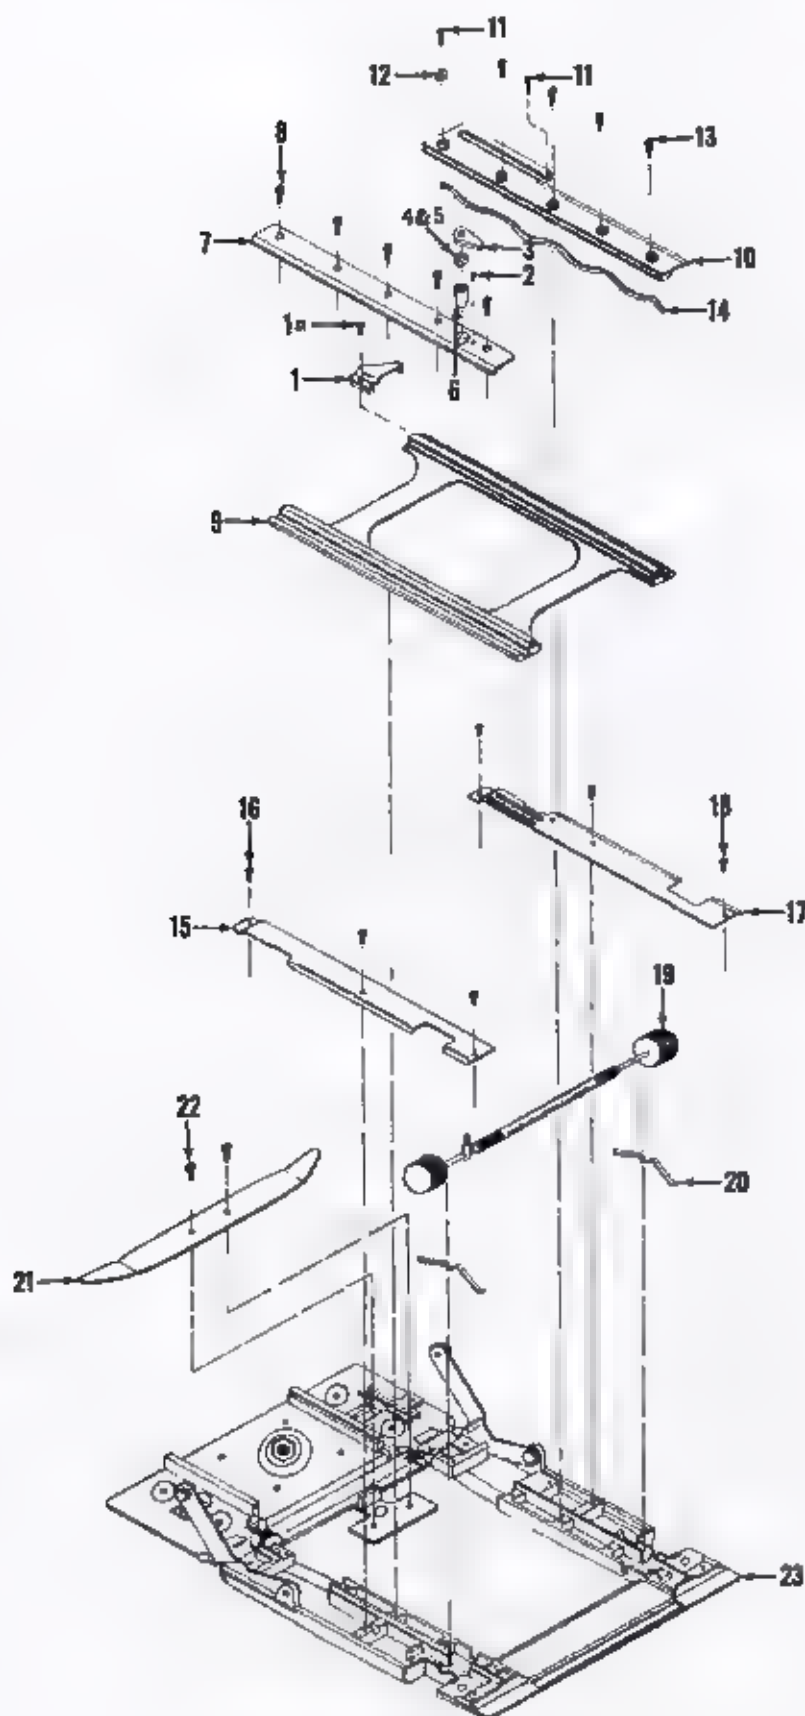

Figure 11. BED COMPLETE
W. BED COMPLETE - DISASSEMBLY AND REASSEMBLY (Figure 11)
a. Remove rangefinder actuating bracket assembly (1) by removing one machine screw (1a). The machine screw is part of the rangefinder actuating bracket assembly.
b. Remove machine screw (2), yoke lock lever (3), flat washers (4 or 5) and yoke lock sleeve (8).
c. Remove right yoke guide (7) by removing five machine screws (8).
d. Remove bed yoke (9).
e. Remove left yoke guide (10) by removing two machine screws (11), one machine screw (12) and four machine screws (13).
f. Remove two yoke springs (14) from underside of left yoke guide.
g. Remove right bed cover (15) by removing three machine screws (16).
h. Remove left bed cover (17) by removing three machine screws (18).